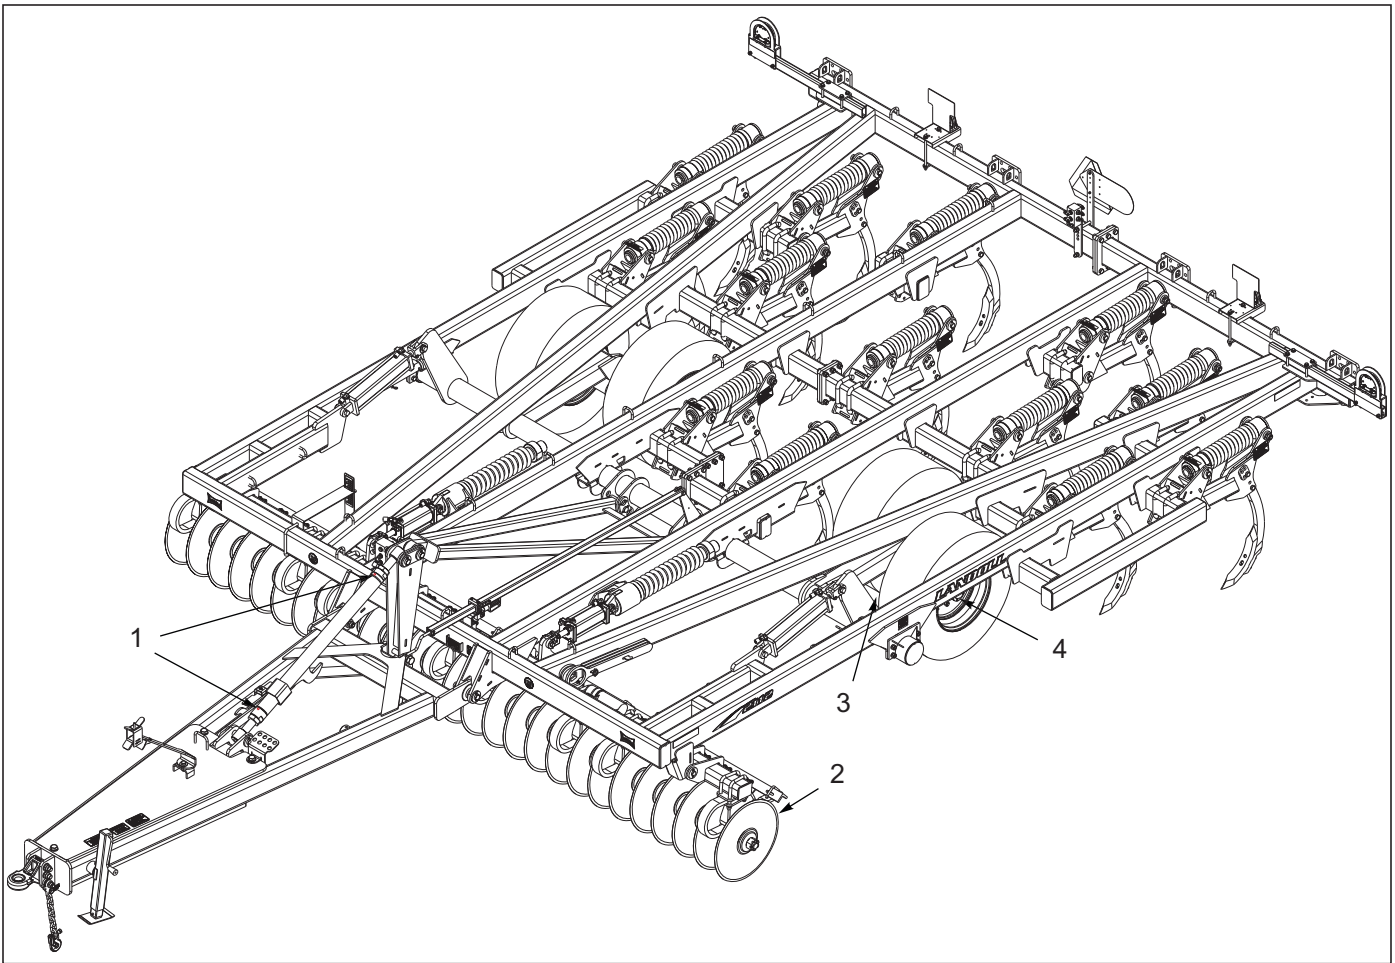

Figure 4-10: Lubrication Schedule
1. **Table 4-1** specifies the lubrication points and intervals on the 2112 Coulter Chisel. Proper maintenance of your machine will, under normal operating conditions, help to keep it operating at or near its peak performance for an extended period of time. Proper maintenance is also a condition of keeping your warranty in good status **See Figure 4-10**.